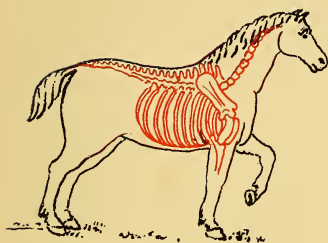

Fig. 2.
In considering the question of a force acting on a particle there are three things to be borne in mind:—(1) the point of application (the point of attachment of the trace to the hame); (2) the direction; and (3) the magnitude of the force. In our case the last of these three things is the power of the horse, and the magnitude of this power we know.* The shoulder is the point at which the greatest power is obtained without impeding the action of any of its limbs (see Fig. 2, Plate I.), and Major Francis Dwyer, in his "Bits and Bridles, Draught and Harness," tells us that